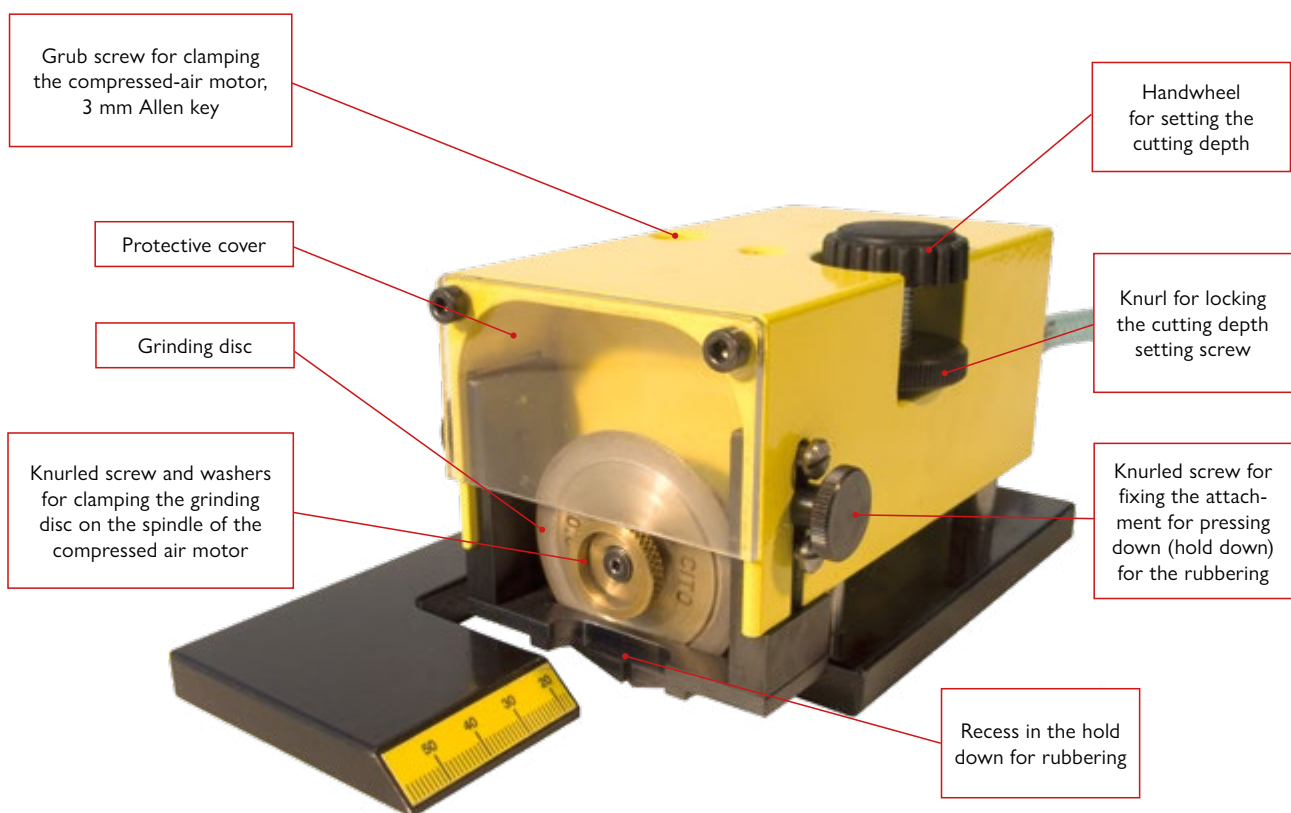

Fig. 2: CG3 controls
- Undo the two side knurled screws for fixing the hold down for rubbering (Fig. 2).
The handwheel for setting the cutting depth (Fig. 2) can be used to preset the depth of the nick to be ground. Turning the handwheel clockwise reduces the cutting depth, turning it anti-clockwise increases the depth. The knurl can be used to lock the spindle of the handwheel against self-actuating adjustment. The depth of the groove should equal the thickness of the carton to be punched + 0.2 mm and + 0.5 mm of the thickness of the compressed corrugated board. To measure the set cutting depth, place the CG3 manual nick grinder on the back; if you now push the baseplate against the CG3 manual nick grinder up to the stop, the dimension by which the grinding disc protrudes from the baseplate is the cutting depth. Alternatively, the cutting depth can be checked at cuts made in places where no damage can be caused.